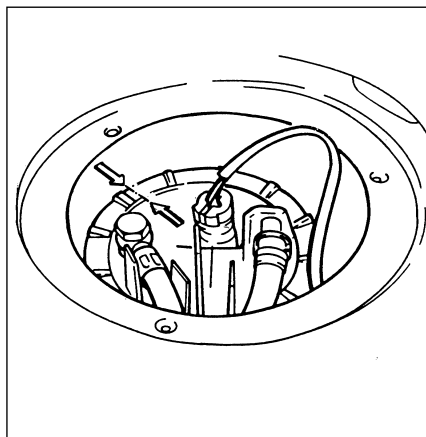

Abb. 2
- Observe the arrow mark on the flange and the tank (fig. 2).